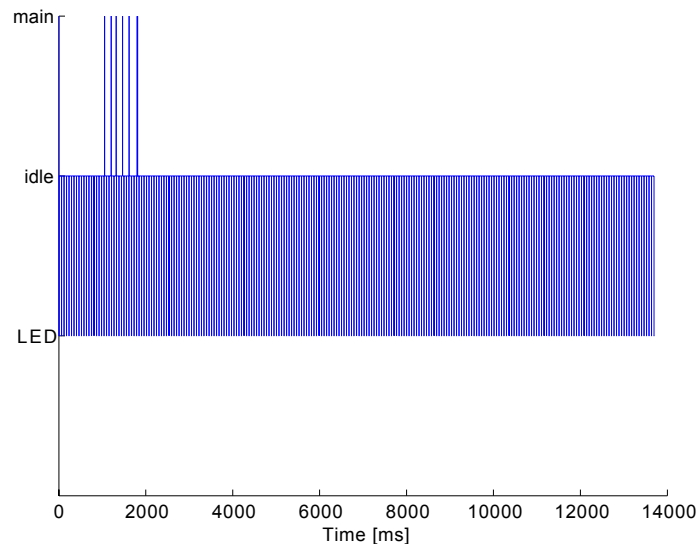

Figure 5.1: Execution of threads for the program listed in Exercise 49.
4. The list of events does not allow you to quickly understand what is really going on. Therefore we now use the terminal program on the host computer to capture the terminal output in a file. Then we postprocess the trace file we have created in the previous step using Matlab. Thus start Matlab now. Type `show_trace('<the filename of the captured terminal output>')`, which opens a figure like the one shown in Fig. 5.1. Be sure to use a separate log file for each trace captured. In this figure, you can see time on x-axis and three threads on the y-axis.
What you can see is that the BTnode spends most of the time in the idle thread. Periodically, it switches to the LED thread and a few times, the main thread was active. The LED thread is responsible for the periodic blinking of the LEDs, it becomes active approximately every 60ms and takes about 300 $\mu$ s to execute. The main thread is responsible for capturing terminal input and launching the corresponding commands. Thus if you did not type `trace` while the buffer was filling, you will see only one spike to the main line at the very beginning of the trace. Otherwise (as shown in Fig. 5.1) you can see a spike for every letter of `trace` plus one when you pressed return. Parsing a keystroke takes about 600 $\mu$ s, executing the command after pressing enter takes much longer, approximately 6ms. When looking closely at the last spike, you may note that it actually consists of several spikes. This is due to the fact, that the `trace` command prints the status of the trace buffer to the terminal, but cannot do so in a single shot. It fills the UART buffer until it is full, then yields execution to the idle thread and is woken up when the buffer has become empty again to write the rest of the output.